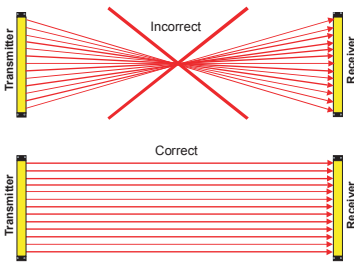

Figure 11: Layout of the transmitter / receiver
Likewise, be aware that the transmitter and receiver connection cables must always be located on the same end of the protective field. If this is not the case, the protective field will have dangerous unprotected areas (Figure 11).
2. Take care that the receiver and transmitter are oriented in the same direction. This means, the beginning of the protective field which is found next to the cable which leads to the MSR 42 safety control unit, must be located at the same end of the protective field. It is not allowed to mount the GuardShield Micro 400 systems turned 180° (Figure 11).